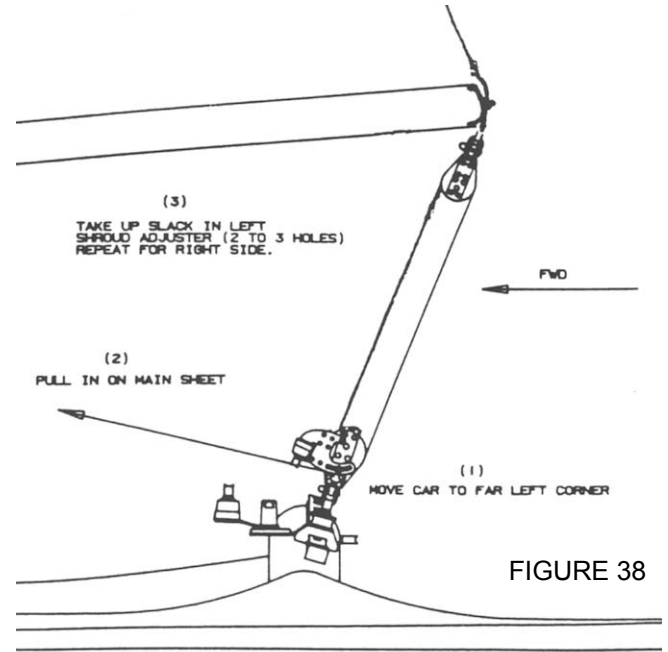

FIGURE 38
20.2 Move and secure the traveller car to the left side of the boat. Using the mainsheet, sheet in tight. Now tighten the left shroud by moving it down two or three holes in the adjuster. Secure the shroud with a clevis pin and ring. (FIGURE 38)